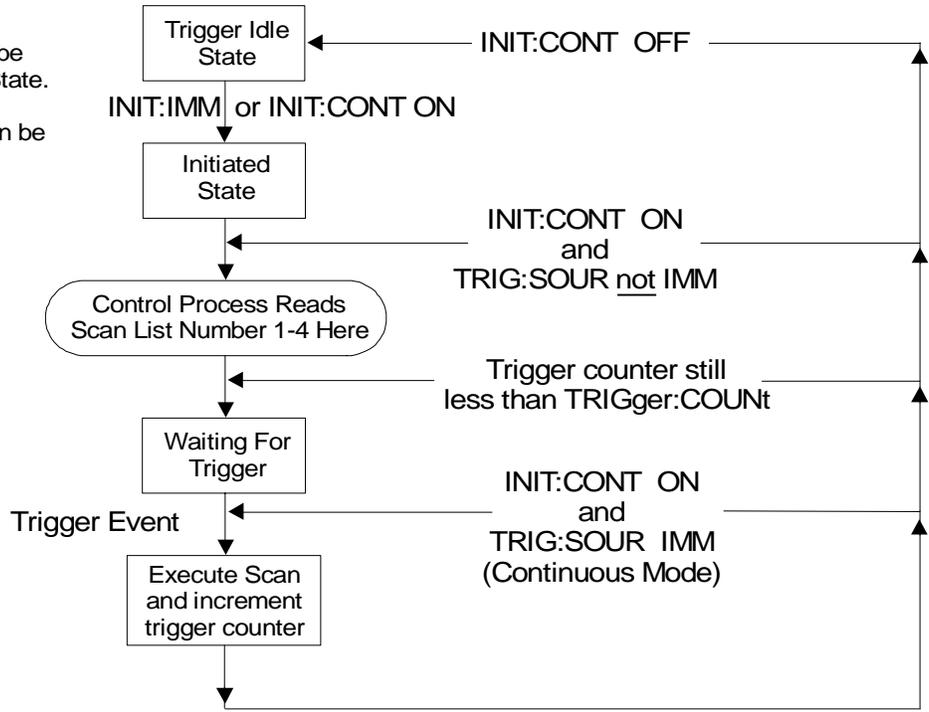

Figure 5-3. Event Sequence for ROUTe:SCAN
- Normally, the specified scan list number becomes effective when the Trigger System moves from the Initiated State to the Wait-for-Trigger State. If ROUTe:SCAN LIST1-LIST4 is executed after this point, it will become effective for the next scan. If INITiate:CONTinuous is ON and TRIGger:SOURce is IMMEDIATE, ROUTe:SCAN will generate an error. Refer to Figure 5-3 for scanning event sequence.